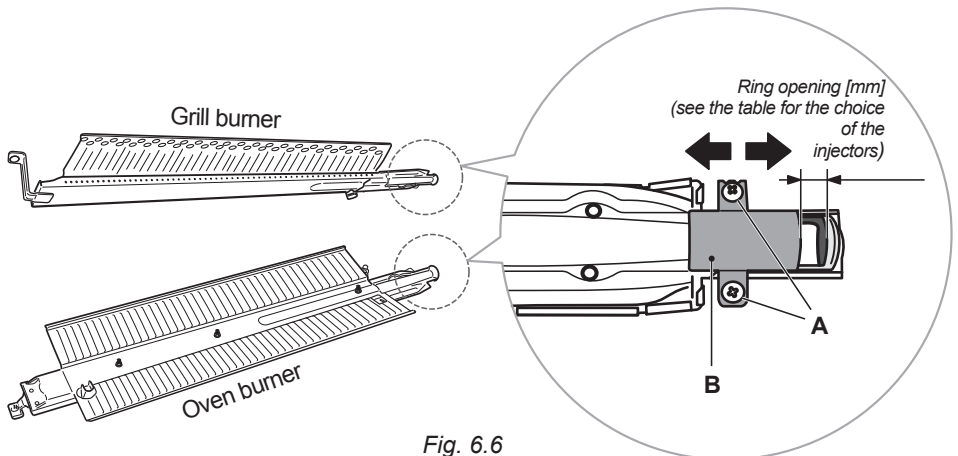

Fig. 6.6
- Using a cross-head screwdriver, slacken the screws “B” securing the air flow regulation collar “A” (fig. 6.6) and move the collar forward or backward to increase or reduce the air aperture in accordance with gas type and the indications in the ‘Table for the choice of the injectors’.